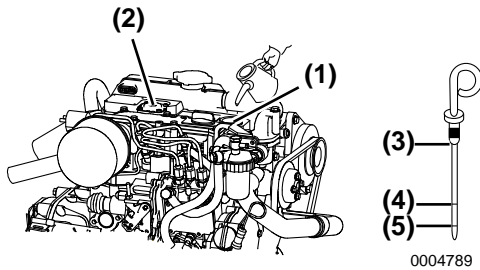

Figure 6
2. **NOTICE: Prevent dirt and debris from contaminating engine oil. Carefully clean the dipstick, filler port cap and the surrounding area before you remove the cap.** Remove the dipstick (**Figure 6, (3)**) and wipe with a clean cloth.
4. Remove the dipstick. The oil level should be between upper (**Figure 6, (4)**) and lower (**Figure 6, (5)**) lines on the dipstick.
1. **NOTICE: Prevent dirt and debris from contaminating engine oil. Carefully clean the dipstick, filler port cap and the surrounding area before you remove the cap.** Remove the yellow oil filler port cap from the filler port (**Figure 6, (1)**) on the rocker arm cover (**Figure 6, (2)**) and fill with engine oil.
2. Fill with engine oil to the upper limit (**Figure 6, (4)**) on the dipstick (**Figure 6, (3)**). **NOTICE: NEVER overfill the engine with engine oil.**